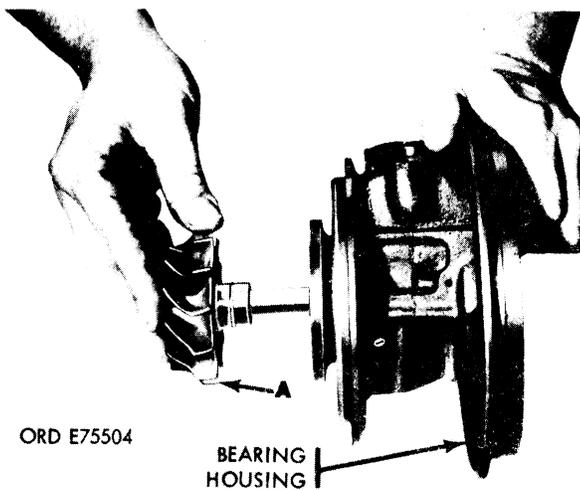

Figure 66. Removing shaft and turbine wheel.
b. Refer to figure 66. Remove shaft and turbine wheel (A) from the bearing housing assembly.